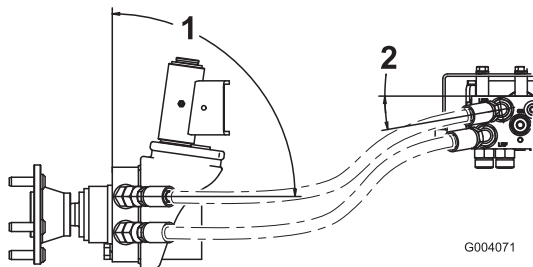

Figure 7
2. Route the 2 left hoses to the left wheel motor. Connect the upper manifold hose to the upper wheel motor fitting and the lower manifold hose to the lower wheel motor fitting (Figure 7). If the hoses are not properly routed they may come in contact with the tires or rear bumper which will cause damage to the hoses.